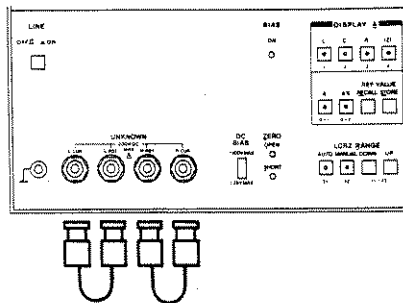

Figure 4-3. Self Operating Test Setup.
1. Connect L_{CUR} and L_{POT} terminals with a BNC to BNC cable as shown in Figure 4-3. Similarly Connect H_{CUR} and H_{POT} terminals.